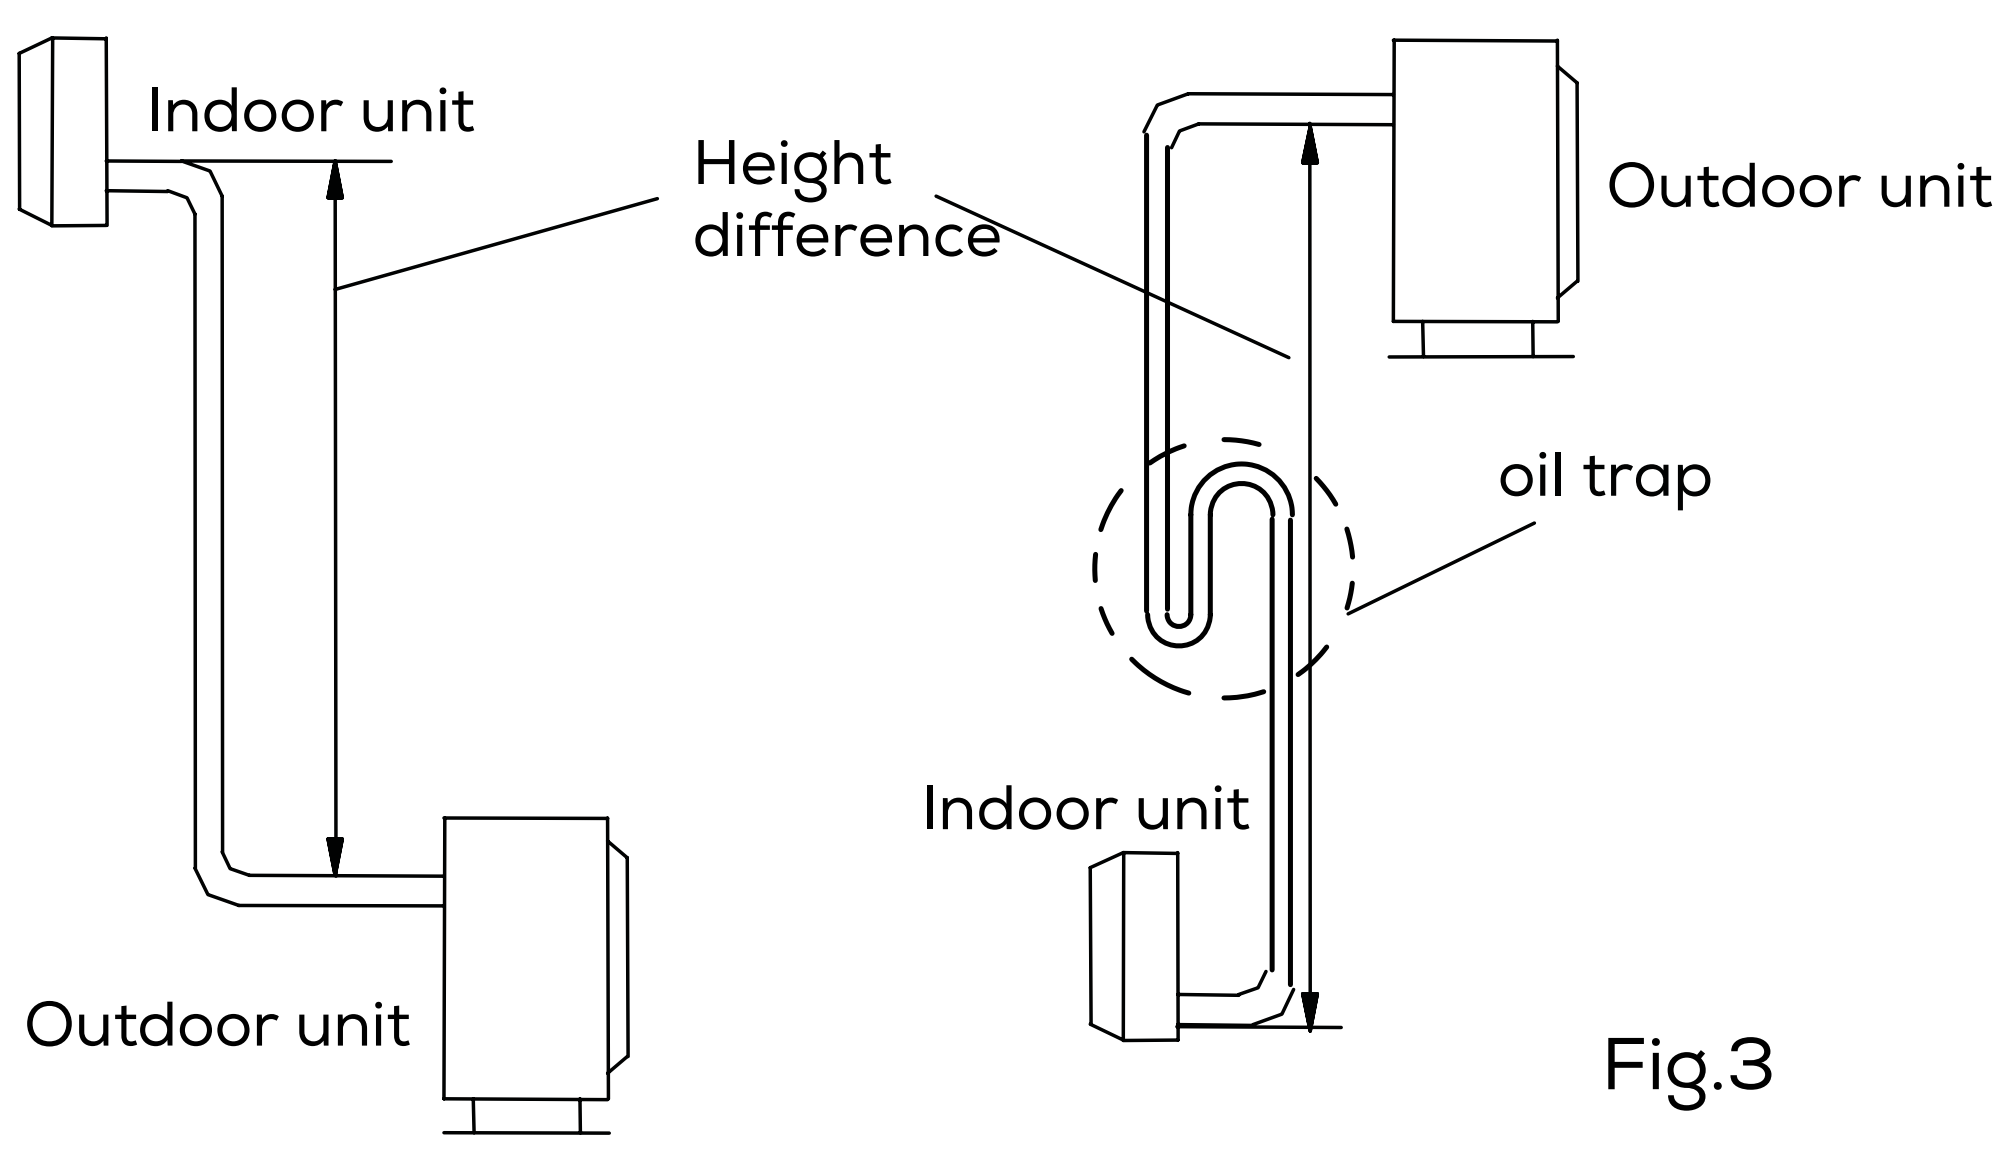

Fig.3
- If the installation position of the outdoor unit is higher than indoor unit and the gas tubing is longer than 10m, added a oil trap on the gas tubing for every 8m. (Fig.3)